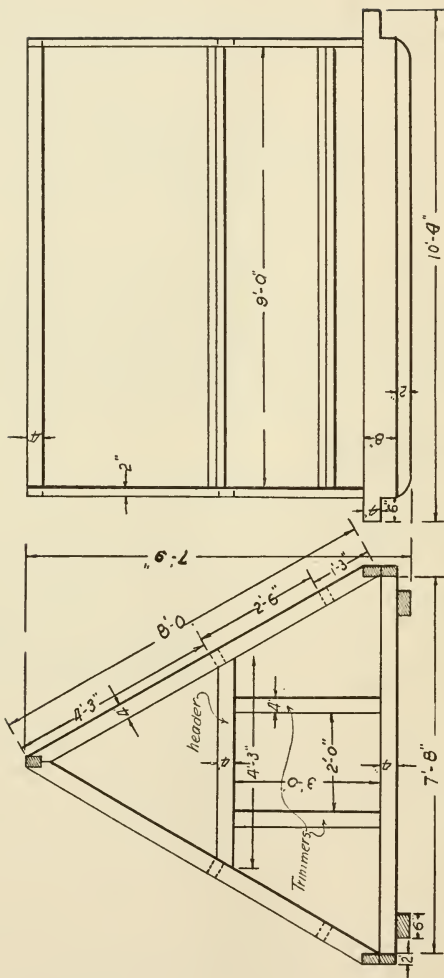

FIG. 104.—WORKING DRAWINGS OF HOG COT.
2. **Laying out and sawing the side pieces.** — Lay out two pieces $2'' \times 8'' \times 10' 4''$ for the side pieces. Notch each end $4''$ down from the top and $6''$ in from each end, as shown in Fig. 104.